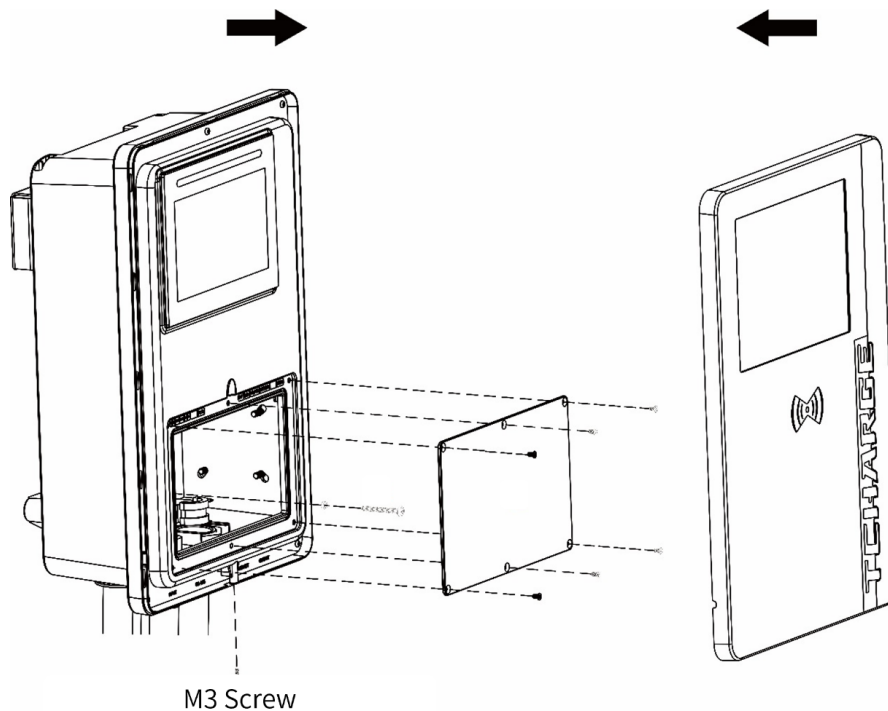

Figure 4.8 Restore the Front Covers of the Charger and Finish the Installation
- 1) Close the wiring area cover; **reinstall and fasten the six screws** that were previously taken off in **Part 4.1.1 Step (3)**.
- 2) Restore the front cover of the charger. Fasten the M3 screw in the bottom front to hold the front cover better (see **Figure 4.8**).